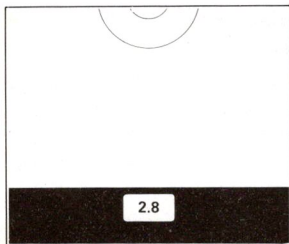

Fig. 51
2. Turn the F-Stop Ring to set the desired f-stop number. The f-stop number can be seen in the bottom area of the viewfinder through the Aperture Relay Port. (Fig. 51)